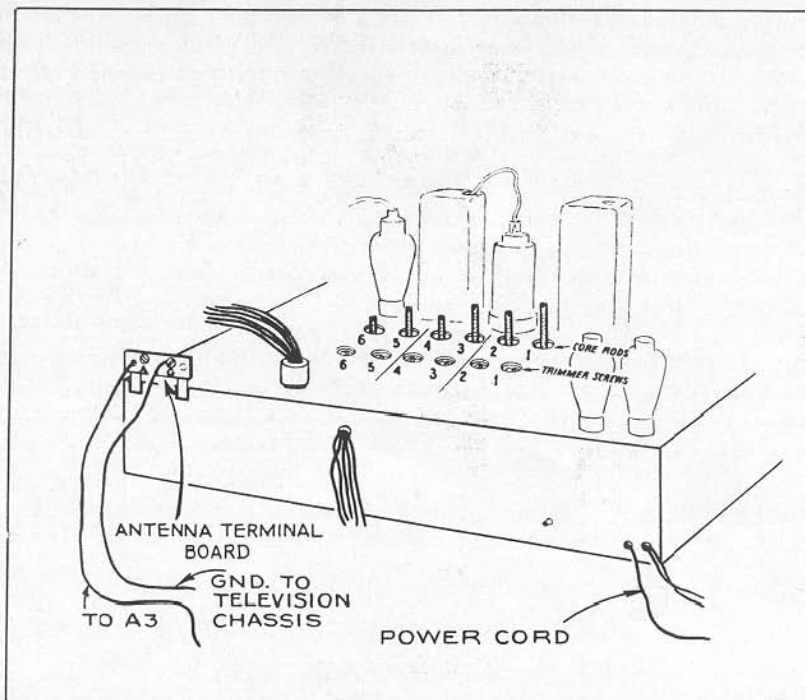

Figure 12—Electric Tuning Device
At the time of installation your dealer or technician will make Adjustments for Electric Tuning on the Radio chassis for your six favorite Standard Broadcast Stations. There are three chassis in the back of the receiver which your dealer will indicate to you if you wish. Looking in the back the Kinescope or picture tube is at the top with the plug and socket end projecting; the Radio chassis is on the top shelf with the push button adjustments visible (see Figure 12); the Television chassis is on the second shelf with the four screwdriver controls and Focusing Control knob on the apron and the antenna terminal board on a bracket; the Radio power chassis is at the bottom right corner with the power cord extending. The two interlock safety switches on the side panels, making contact when the back is correctly secured in place, will also be pointed out by your dealer.
3. On the chassis inside the receiver are 12 holes, two rows of 6 each (see Figure 12). Projecting through one row of holes are six threaded brass rods, with screwdriver slots, numbered 1 to 6 in the sketch. They are for adjusting magnetite cores. A special screwdriver should be used, one that does not make metal contact with your hand to impair accurate tuning, and which prevents breakage of the core rods at the slotted ends. Such a tool, RCA Stock No. 31031, may be procured from your dealer. Slide the hollow end of the tool over the rod so that the screwdriver bit engages in the slot in the rod marked "1." Turn slowly until the same station is heard (560 kc in example), and the Magic Eye shows the dark sector at its narrowest width.
4. The six holes in the second row give access to six trimmer screws numbered 1 to 6 in Figure 12. Insert the screwdriver (RCA Stock No. 31031) in hole marked "1" and turn the trimmer screw until the darker sector of the Magic Eye is at its narrowest width for the station.